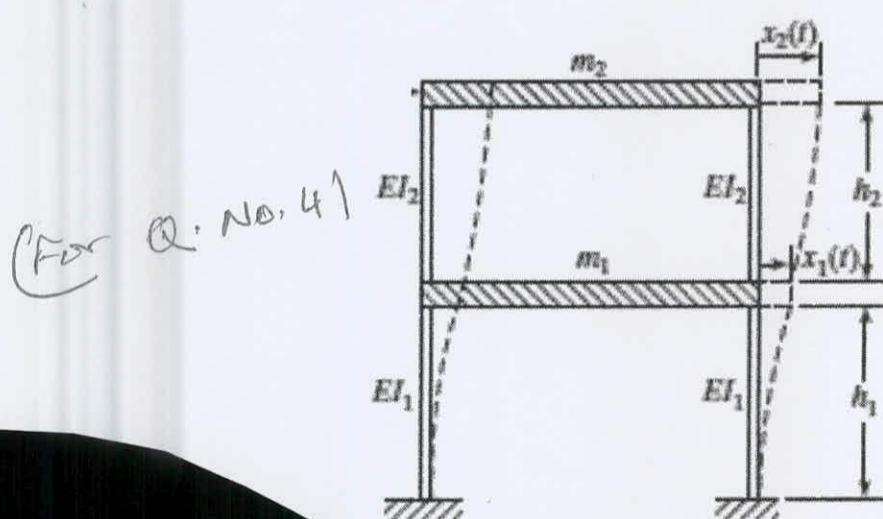

Fig. 4
4. Determine natural frequency, mode shape and the free vibration response of the two DOF shear frame as shown in **Fig. 4**. Given, $EI_1 = 10000 \text{ k-in}^2$, $EI_2 = 8000 \text{ k-in}^2$, $h_1 = 15 \text{ ft}$, $h_2 = 12 \text{ ft}$, $m_1 = m_2 = 4 \text{ kip/in/sec}^2$. (23 1/3)